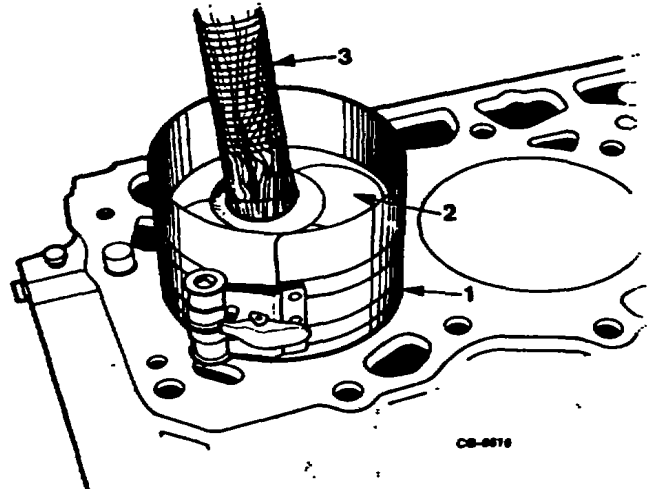

Figure 135. Installing Piston and Connecting Rod Assembly
- Coat No. 1 cylinder bore with clean engine oil. Position piston and rod assembly in cylinder bore with word "TOP" marked on piston toward centerline of engine block. Carefully push piston and rod assembly through ring compressor (Figure 135) until piston is in cylinder bore. Avoid striking cylinder bore with connecting rod.